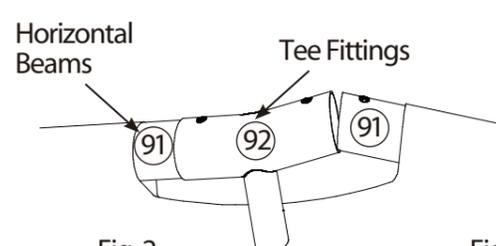
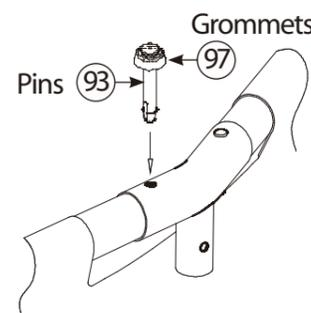

Fig. 2
Fig. 3
- When you get to the last connection, install the last tee fitting on the end of one of the beams. Lift up on both of the last two beams in order to get them to insert into the tee fitting. Angle them towards each other and guide the beam into the fitting as you lower them both down together. See Fig. 2. This step may require two people. Now, begin inserting the pins (93) down through the top of the tee fittings until the pin snaps into place on the lower side of the fitting as shown in Fig. 3.